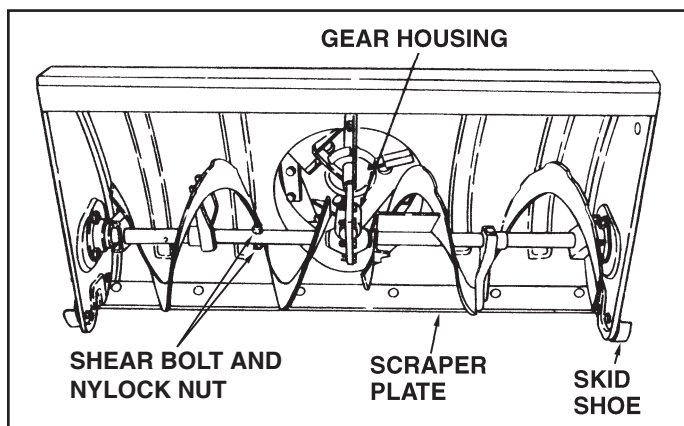

FIGURE 30
- If the augers will not turn, check to see if the shear bolts have sheared. See figure 30. Two replacement shear bolts and nylock nuts have been provided with the snow thrower. For future use order part number 710-0890A shear bolt and number 47810 nylock nut.